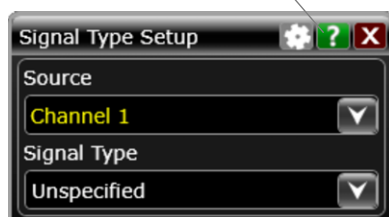

Figure 24 Help button for dialog box Help
- Click the question mark near the top right corner of a dialog box to open the help topic for that dialog box (**Figure 24**).